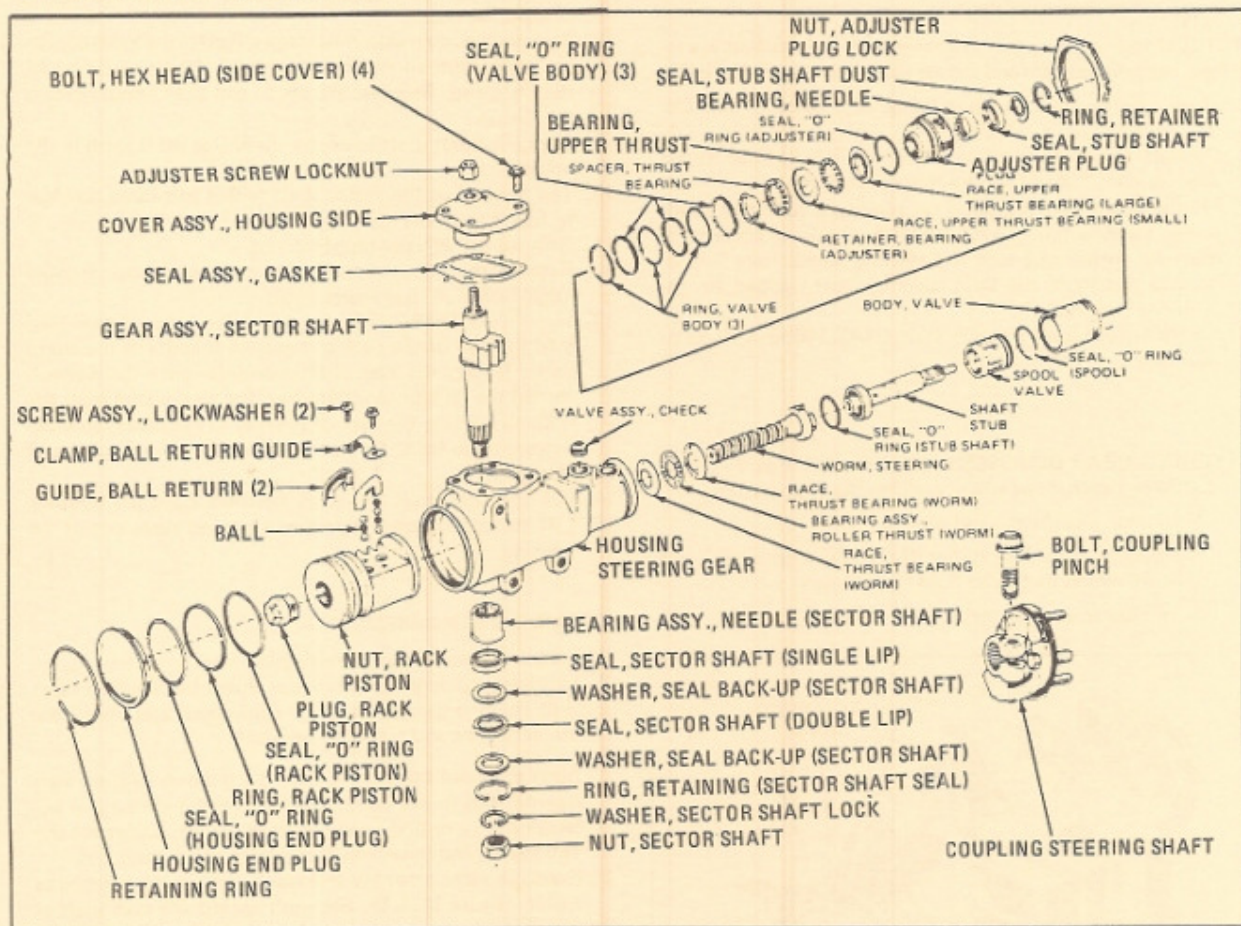

Figure 142 - Steering Gear Disassembled
- Remove the snap ring (figure 142) that secures the sector shaft seals in the lower end of the housing. Remove the lower spacer washer.
**CHECK VALVE REMOVAL AND INSTALLATION** — If the inlet port check valve requires service, refer to figure 142.